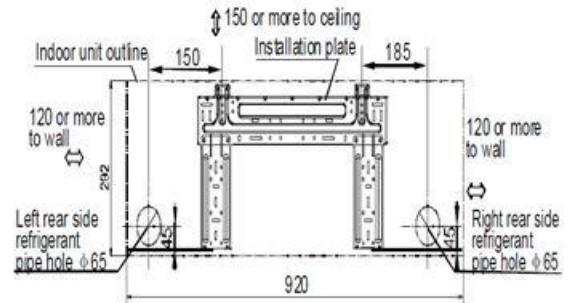

Figure 3
1. Fit the installation plate horizontally on structural parts of the wall with spaces around the installation plate. See figure 3
2. If the wall is made of brick, concrete or the like, drill eight (8) 5mm diameter holes in the wall and insert anchor clips for appropriate mounting screws.
3. Fit the installation plate on the wall with eight (8) type A screws.